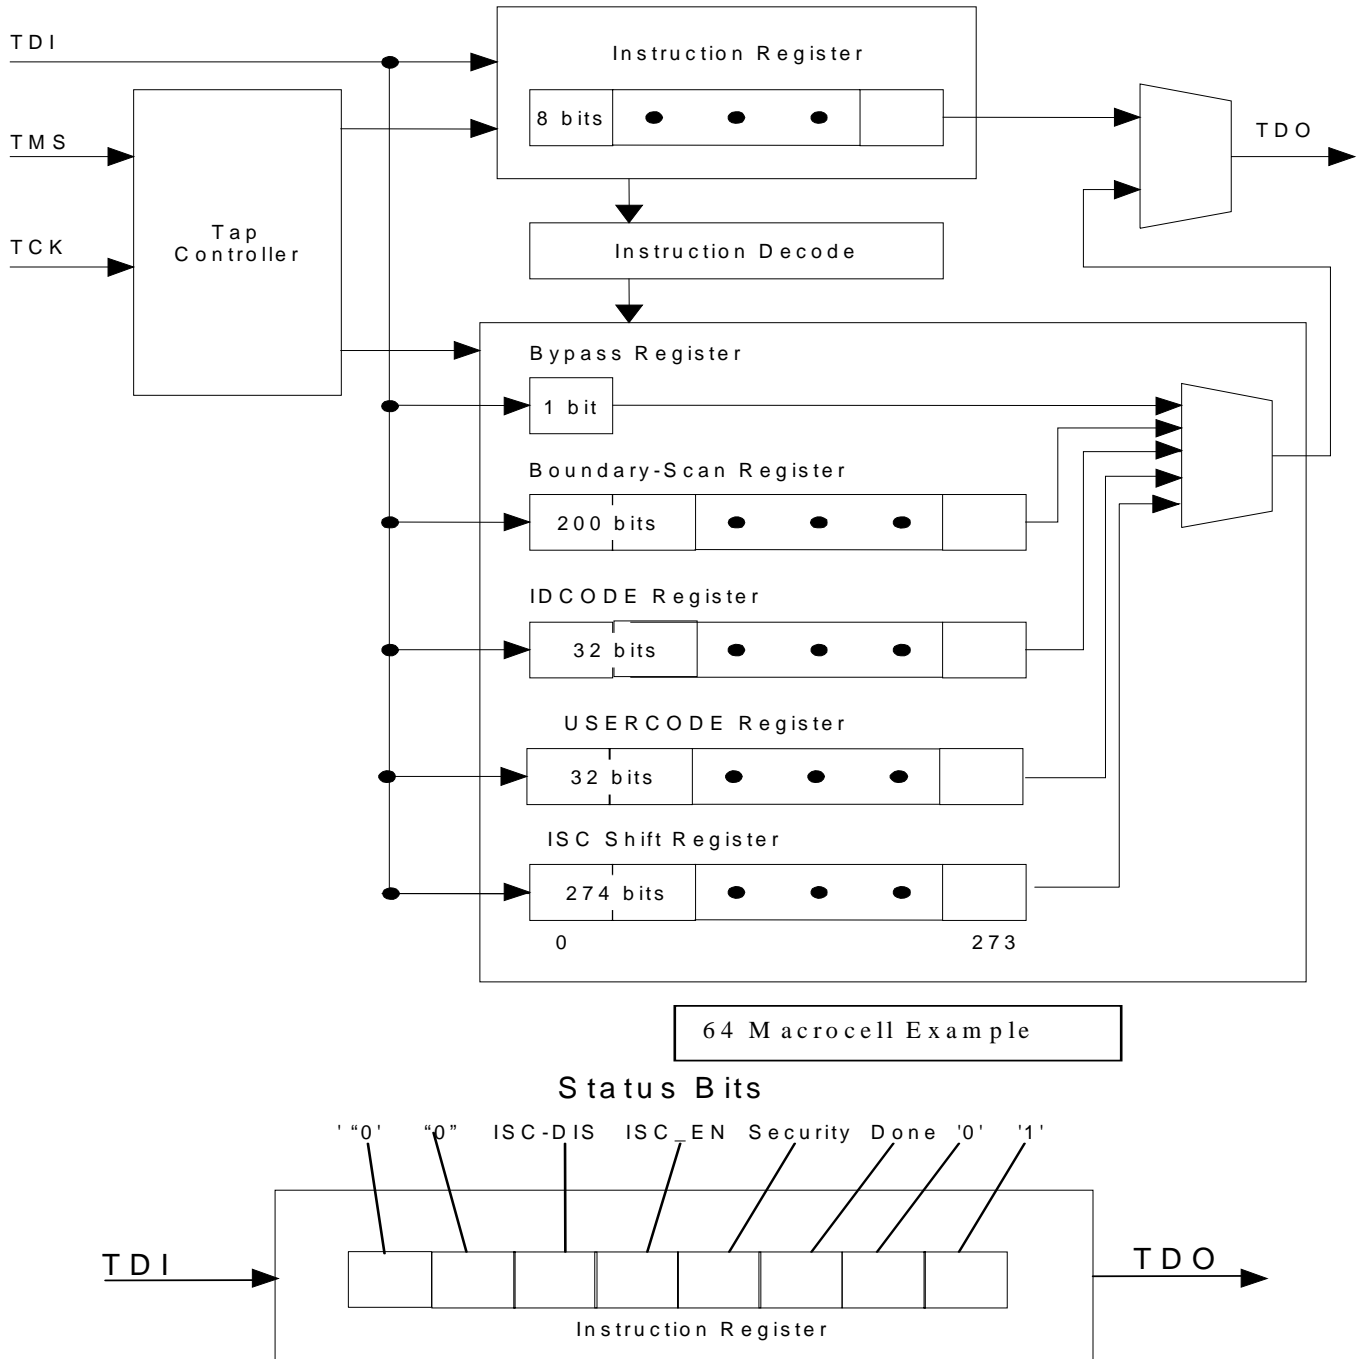

Figure 13. JTAG Block Diagram
7.11 Capture-IR: In this controller state, the shift-register contained in the instruction register loads a pattern of fixed logic values on the rising edge of TCK. In addition, design-specific data may be loaded into shift-register stages that are not required to be set to fixed values. The CoolRunner II will load STATUS bits into the Instruction register in this state. This STATUS information will be shifted out of TDO and can be viewed to determine the modal state of the device. Figure 13 shows the bits and their location in the Instruction Register. BST or ISC data registers selected by the current instruction retain their previous state. The instruction does not change while the TAP controller is in this state.